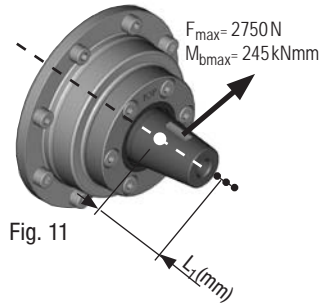

Fig. 11
- The force applied at the force engagement force by the belt tension (see Fig. 11) must not exceed $F_{max} = 2750$ N.
- If the force engagement point shifts forwards (see Fig.11, small point), the force F_{max} reduces as per the following formula: